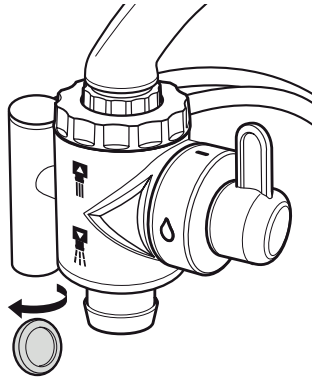
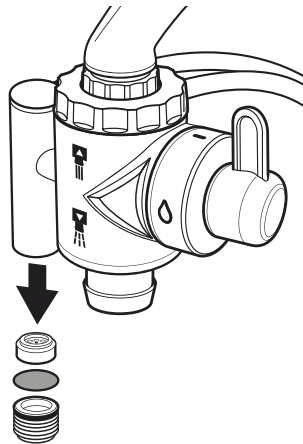

Figure 3.23 – Unscrew the filtered water nozzle
Figure 3.24 – Remove the filtered water nozzle
1. Use a coin to remove the filtered water nozzle (see Figure 3.23 and Figure 3.24). This will ensure that particulates are washed out from first flush and will not block filtered water nozzle.
2. Select cold water at the kitchen faucet and turn the faucet on. Open the diverter valve by turning the handle to the horizontal (filter) position (see Figure 3.24). This will begin the water flow to the filter system.